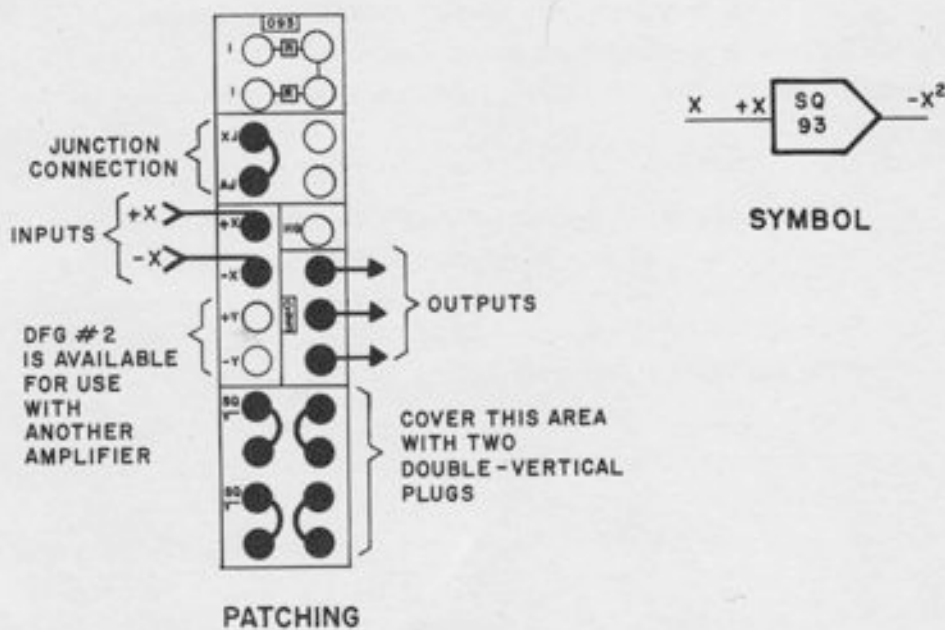

Figure A1.27. Squaring with DFG 1 and Associated Amplifier
These conventions are illustrated in Figures A1.27 and A1.28 for DFG 1. DFG 2 may be used similarly, either with the associated amplifier or another amplifier. In any case, the amplifier output is $+Y^2$. Note that DFG 1 and DFG 2 produce outputs of opposite polarities. It is *not* possible to change the polarity of the output of either DFG by interchanging the $\pm$ inputs.
3. Variables of One Sign Only. The circuits in Figures A1.27 and A1.28 work for both signs of x and y ; i. e., the output is correct for $-1 \leq x \leq +1$ and $-1 \leq y \leq +1$. However, if an input does not change sign, it is possible to eliminate an inverter in these circuits, as follows: